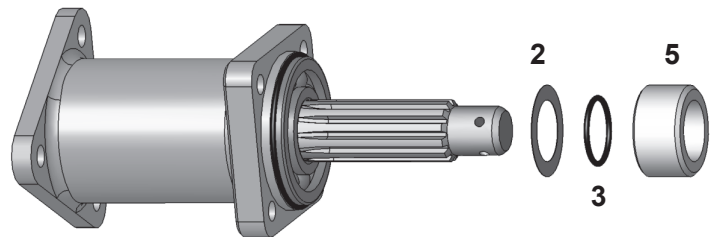

Fig. 4
- Slip the shim (Pos.2, Fig.1), the O-ring (Pos.3, Fig.1) and the spacer (Pos.5, Fig.1) on the axle shaft as shown in the picture Fig.4.